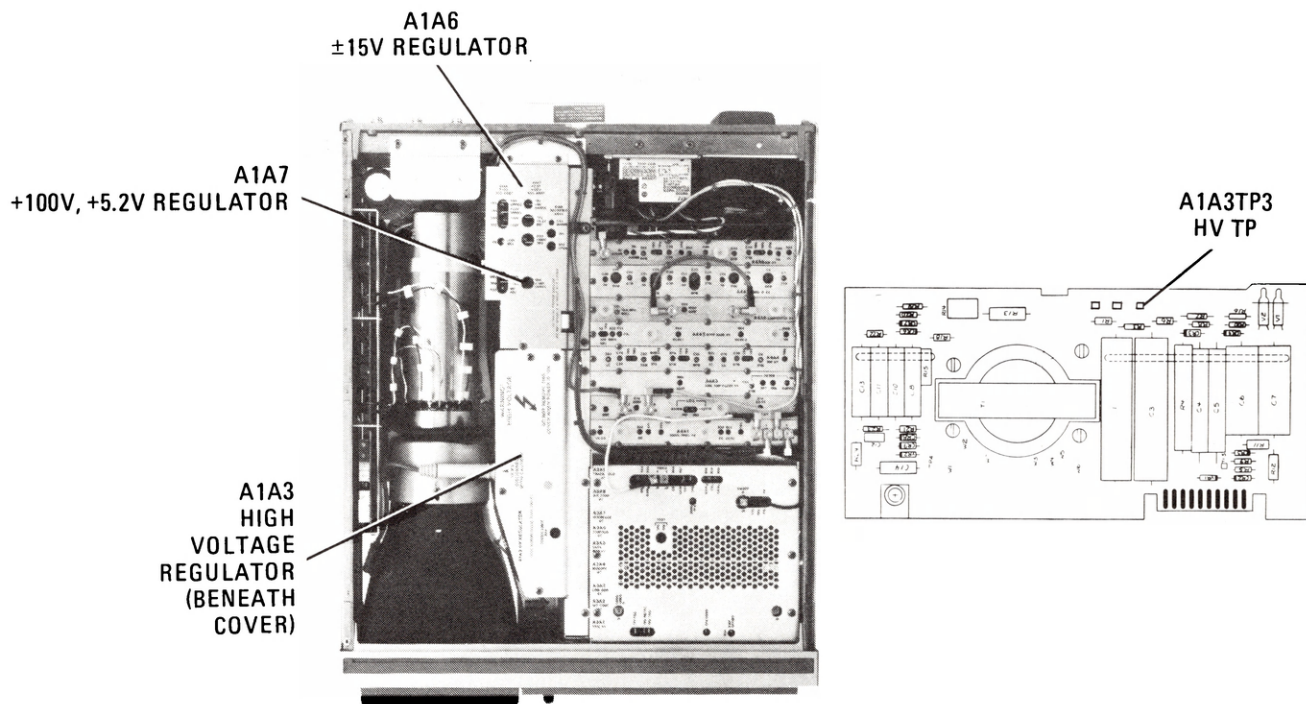

Figure 5-5. Location of High and Low Voltage Regulator Assemblies
10. Remove protective cover from the A1A3 High Voltage Regulator. Refer to Figure 5-5 for location of A1A3.
11. Connect high-voltage probe to A1A3TP3. With power supplied to the instrument, A1A3TP3 is at a voltage level of approximately 4000 Vdc. Be careful. Refer to Figure 5-5 for location of test point.